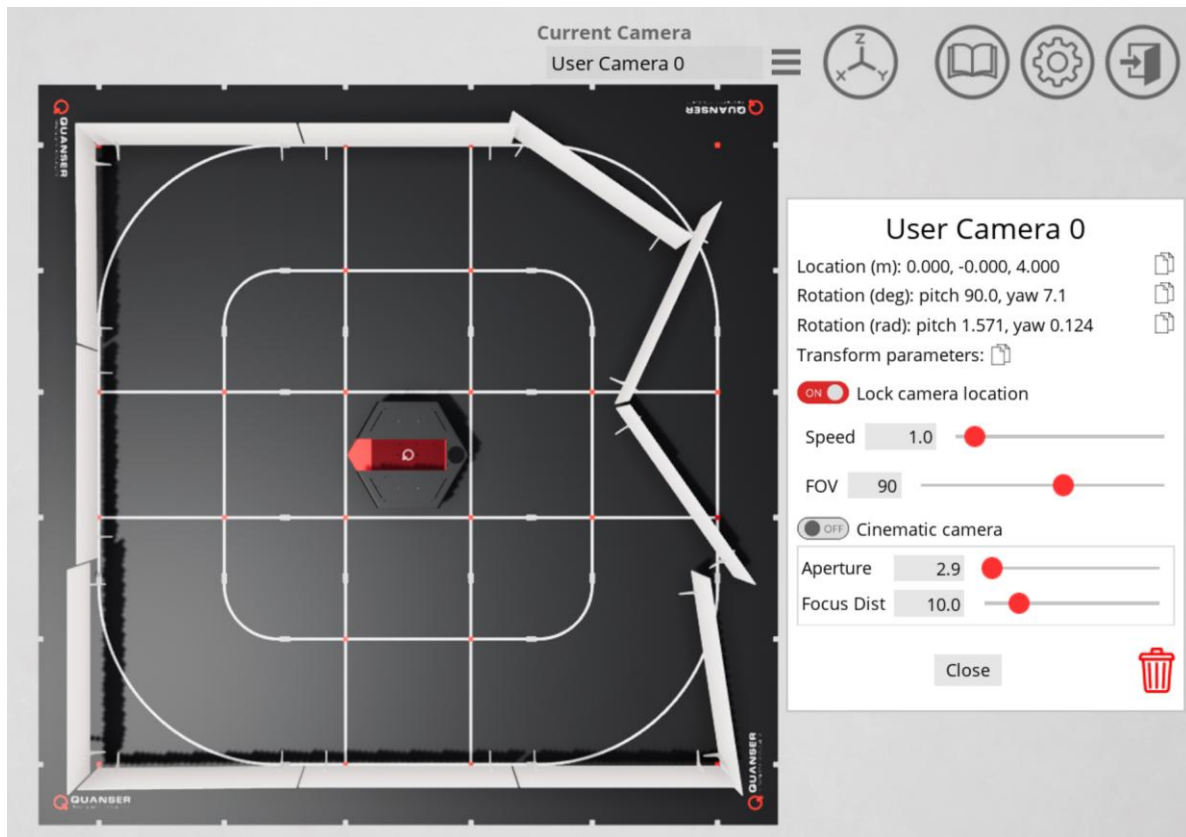

Figure 2. Successful set up of the Quanser Interactive Lab Workspace
1. Consider a situation, shown in Figure 2, where the QBot: